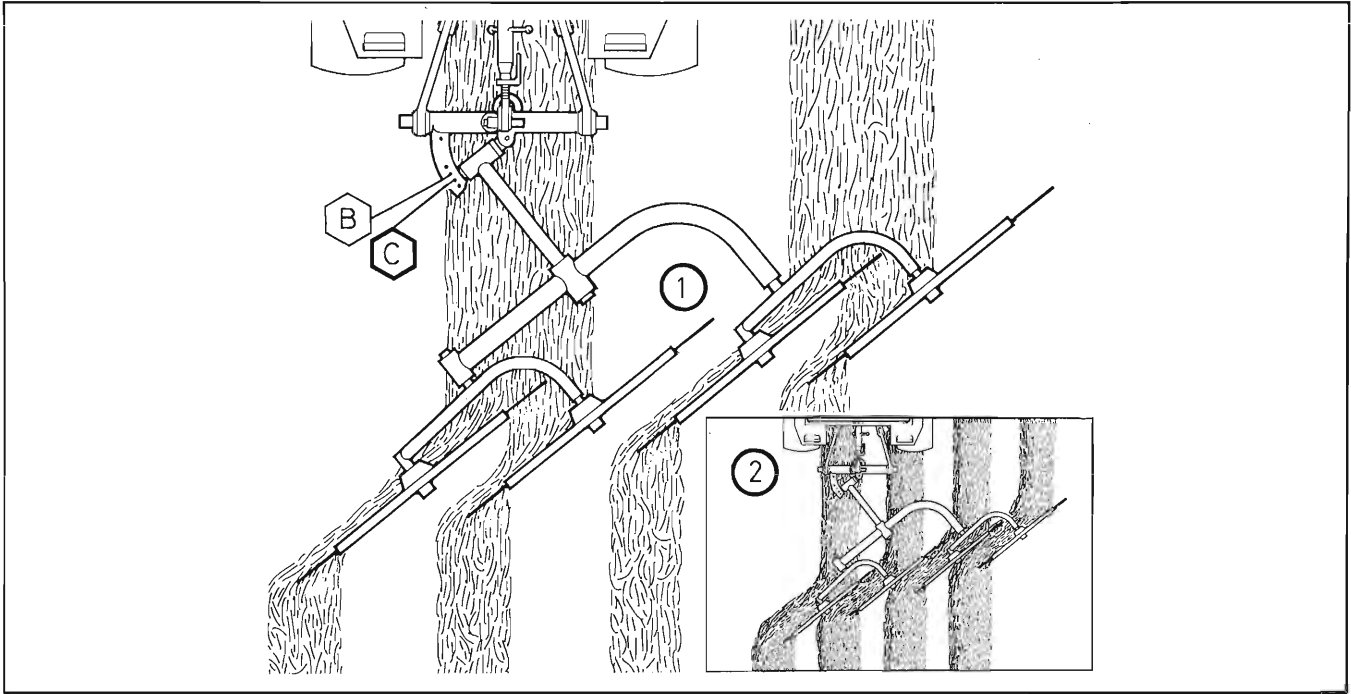

Fig. 30
In the spreading operation, the Finger Wheels move the crop from right to left separately (Fig. 30). In wide swaths, (4) smaller width windrows can be formed from (2) large windrows in a single pass. As conditions permit, (4) small swaths can also be spread into (4) small windrows (2 of Fig. 30). Most spreading operations are carried-out with the width adjusted to hole position (C), the Finger Wheels depth is adjusted so that the Hitch Pins